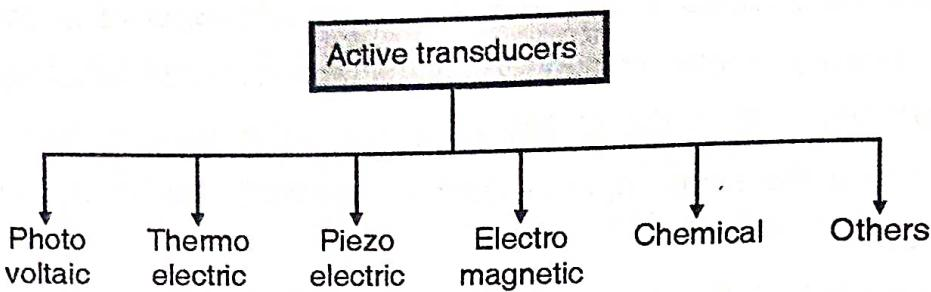

Fig. 1.5.1 : Classification of active transducers
1. These transducers do not need any external source of power for their operation. Therefore they are also called as **self generating type transducers**. The active transducers can be further classified as shown in Fig. 1.5.1.